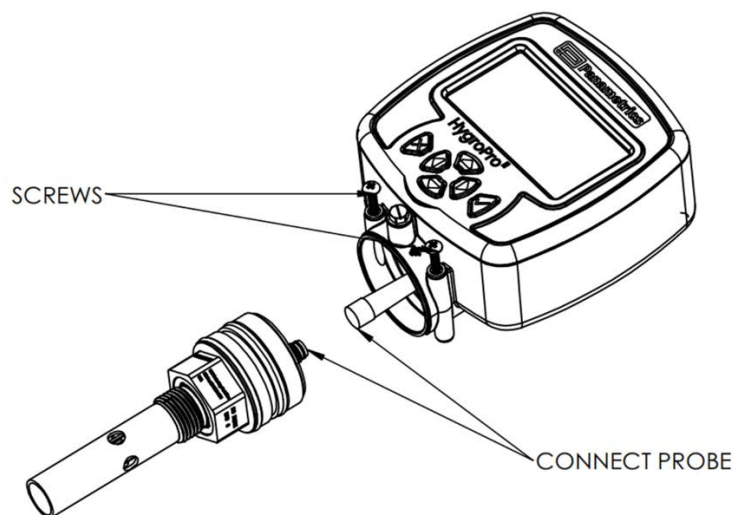

Figure 18: Removing the Hygro^{II} RTE probe from the transmitter
The Hygro^{II} RTE probe is easy to remove from the dismantled transmitter by loosening the two shoulder screws and disconnecting the internal M8 connector cable as shown in *Figure 18* below. To remove the probe from the transmitter, refer to *Figure 17* above and proceed as follows:
4. Disconnect the M8 connector of the internal yellow probe cable by turning the locknut at the top of the probe. Then, detach the probe (see *Figure 18*).